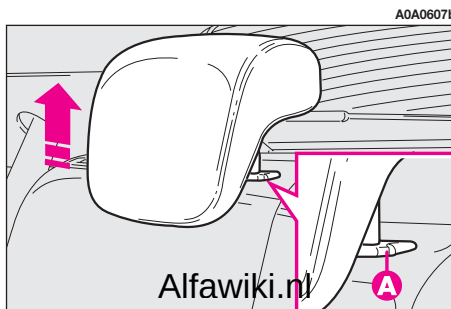

fig. 21
- raise the headrest to the highest position, press both buttons (**A-fig. 21**) at the side of the two supports, then remove the headrest pulling them upwards;
To use the headrest, raise it from the (2) “non use position” and reach the (1) “all removed” position. To restore the “non use position”, press button (A-fig. 21) and push the headrest downwards.